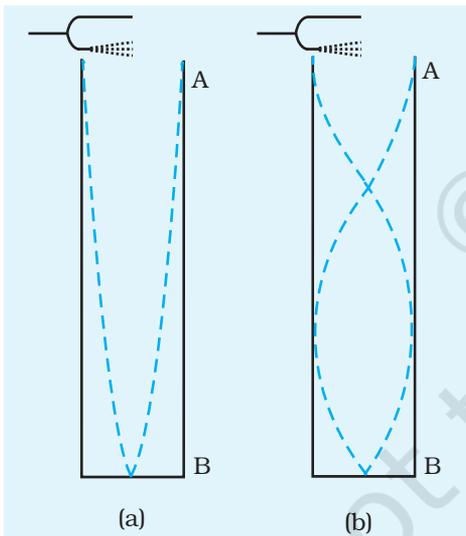
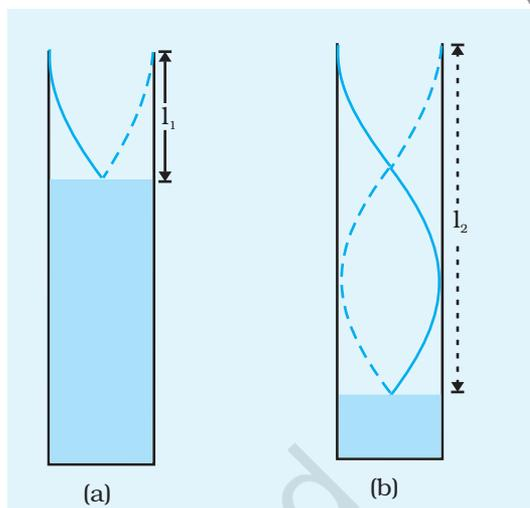

Fig. E 16.1: Formation of standing wave in glass tube AB closed at one end
Fig. E 16.2: Vibrations in a resonance tube
When a vibrating tuning fork of known frequency ν is held over the top of an air column in a glass tube AB (Fig. E 16.1), a standing wave pattern could be formed in the tube. Under the right conditions, a superposition between a forward moving and reflected wave occurs in the tube to cause resonance. This gives a very noticeable rise in the amplitude, or loudness, of the sound. In a closed organ pipe like a resonance tube, there is a zero amplitude point at the closed end (Fig. E 16.2). For resonance to occur, a node must be formed at the closed end and an antinode must be formed at the open end. Let the first loud sound be heard at length l_1 of the air column [Fig. E 16.2(a)]. That is, when the natural frequency of the air column of length l_1 becomes equal to the natural frequency of the tuning fork, so that the air column vibrates with the maximum amplitude. In fact the length of air column vibrating is slightly longer than the length of the air column in tube AB. Thus,
[Fig. E 16.2(b)]. This length l_2 would approximately be equal to three quarters of the wavelength. That is,
9. Repeat steps 7 and 8 till you get the exact position of water level in the tube for which the intensity of sound being produced in the tube is maximum. This corresponds to *the first resonance position or fundamental node*, if the length of air column is minimum. Close the pinch cock at this position and note the position of water level or length l_1 of air column in the tube [Fig. E 16.2]. This is the determination of first resonance position while the level of water is falling in the tube.
10. Repeat steps (5) to (9) to confirm the first resonance position.